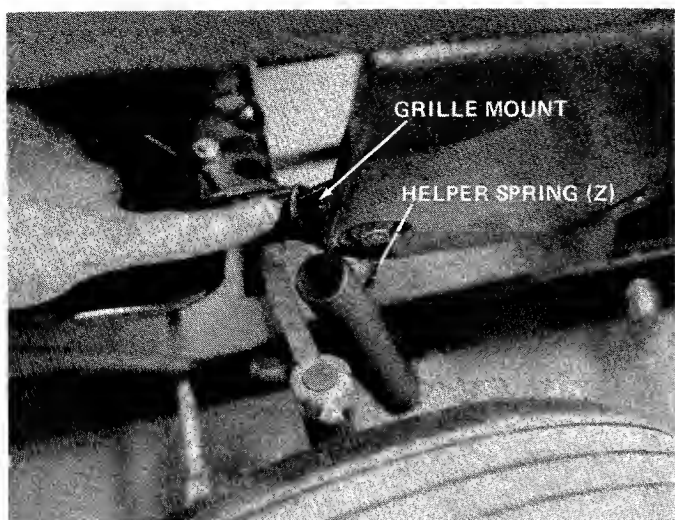

FIGURE 22
24. With a piece of strong wire hook the end of helper springs (Z) up into grille mount on lawn tractor. See figure 22.
26. Using a 1/2" wrench, tighten securely hex bolts (V) which are threaded into the spring inserts. Refer to step number 4.